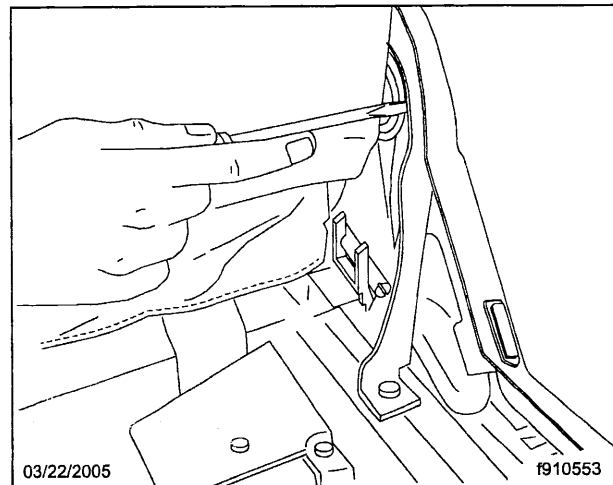

**Fig. 6, Push Down on the Plastic Flanges**
8. The side shield is now held on by two plastic mounts, and the shield fastens to the mounts in four places—two at the top and two at the bottom. To remove the shield at the top, gently push down on the two plastic flanges that lock in to the shield mounts until they are free. See **Fig. 6**.